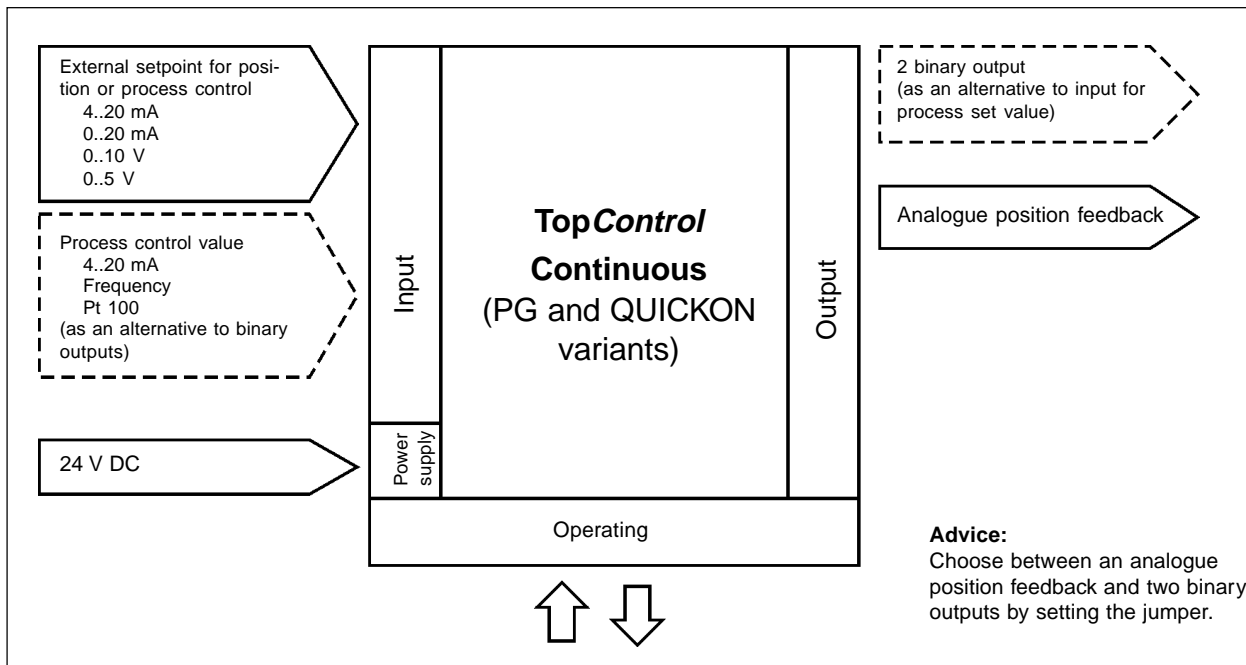

Fig. 3.9: Interfaces of the TopControl Continuous on the variants with PG screw connectors and QUICKON connectors
- Terminal with PG cable glands and terminals with restricted functions (Fig. 3.9)